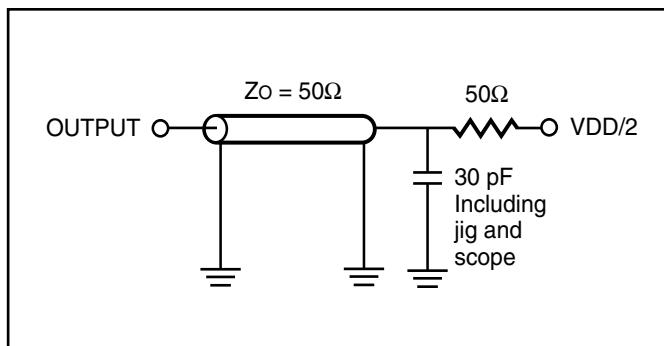

Figure 1.
1. Test conditions and output loading conditions are specified in the AC Test Conditions and ACTest Loads (Figure 1)